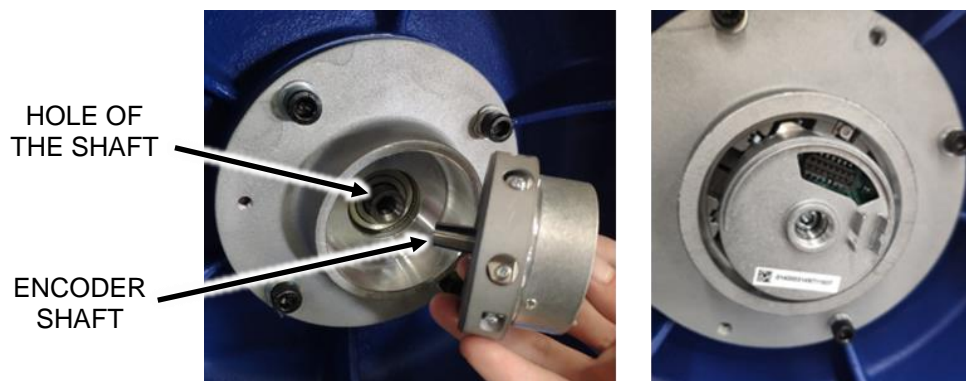

Figure 26
2. There is a taper in the front of the encoder shaft, put the encoder shaft into the hole of the shaft. Figure 26.